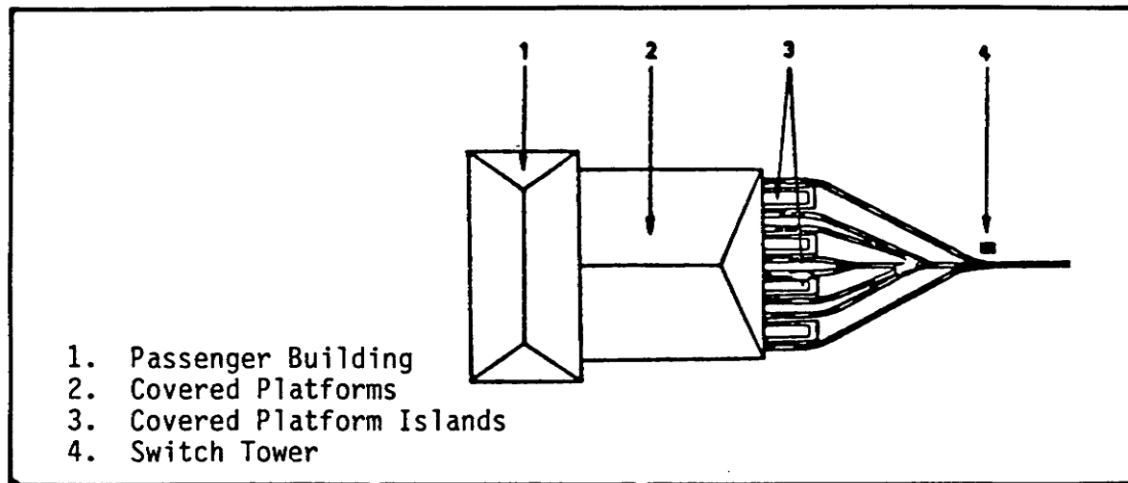

Figure 1-11. Passenger Terminal.
a. Terminal passenger stations are usually found at the end of a series of tracks. These stations are where passengers arrive or wait for, board and leave on trains. The stations are usually roofed over and consist of large permanent buildings that facilitate the handling of baggage and mail. Passenger movement between platforms in dead-end terminals is by means of an open or covered concourse across the ends of the tracks. The passenger loading platforms frequently project beyond the end of the roof that covers the main part of the terminal (Figure 1-11).